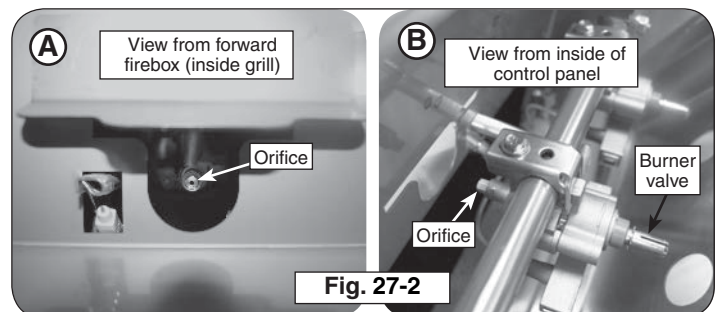

Fig. 27-2
3. Use a $\frac{1}{4}$ " hex deep socket nut driver to remove the exposed orifices. Access the orifices through the holes in the forward firebox plate inside the grill (see Fig. 27-2, A). Check orifices. If needed, replace all with the correct orifices for the new gas.
Alternatively, the orifices can be accessed through the inside of the control panel if the proper tool is not available (see Fig. 27-2, B). This allows a $\frac{1}{4}$ " open-end wrench to be used instead of a $\frac{1}{4}$ " hex deep socket nut driver. To open the control panel, see the CONTROL PANEL REMOVAL section.